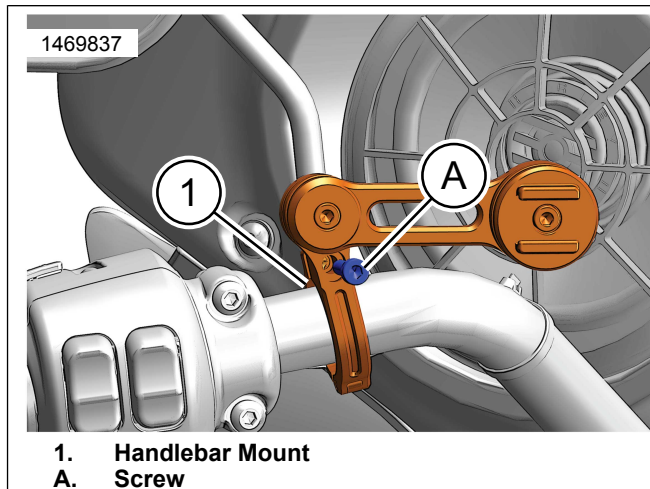

Figure 2. Phone Mount Install to Left Side Handlebar
- b. If needed, select appropriate size shim (2).
- c. See Figure 2. Remove screw (A) from handlebar mount (1).
- d. Insert shim (2).
- e. See Figure 2. Install handlebar mount (1) with installed shim (2) to vehicle handlebar.
- f. Prior to tightening phone mount bolt (A), adjust clocking to enable viewing without obstructing functions of the motorcycle.
- g. Install screw (A). Tighten.